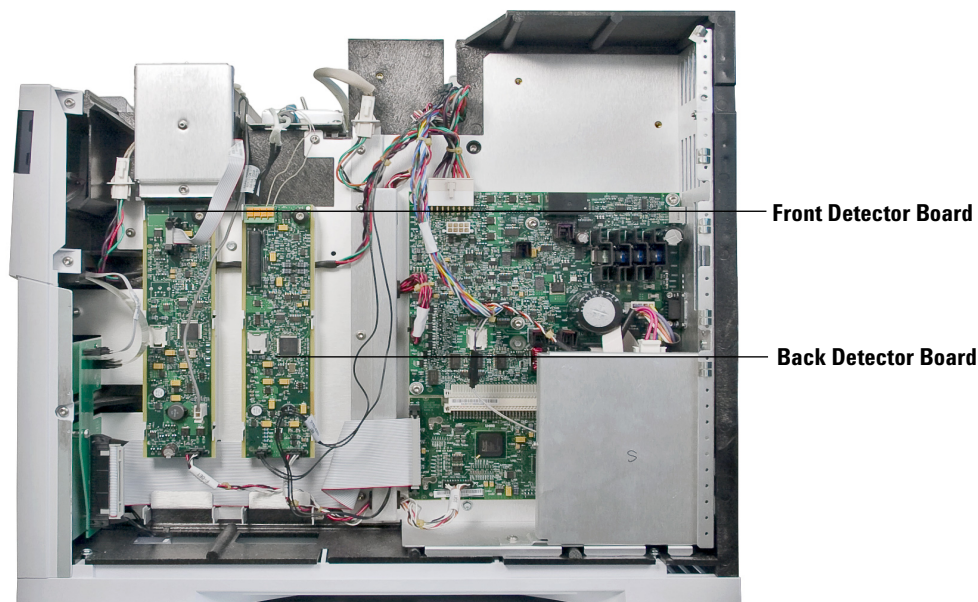

Figure 6 Locating the appropriate position for the FID board installation
- 2 Position the FID board in the frame directly under the detector position. (See Figure 6.)